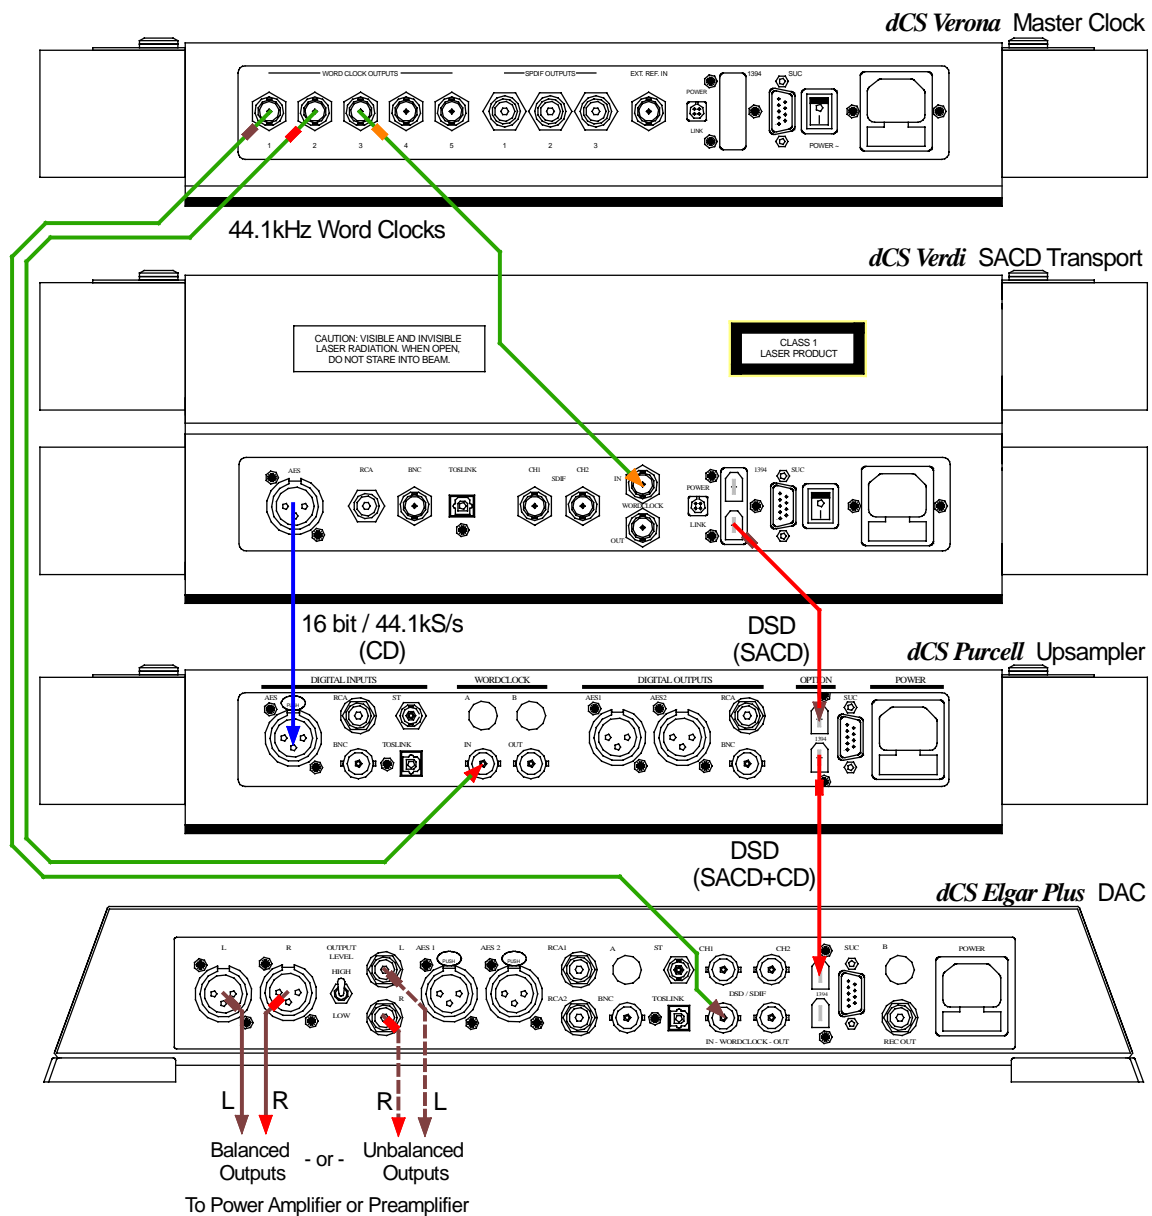

Figure 2 - Using *Verona* to clock a *Verdi*, a *Purcell* and an *Elgar Plus*
- do this:** Connect up as shown in **Figure 2**.